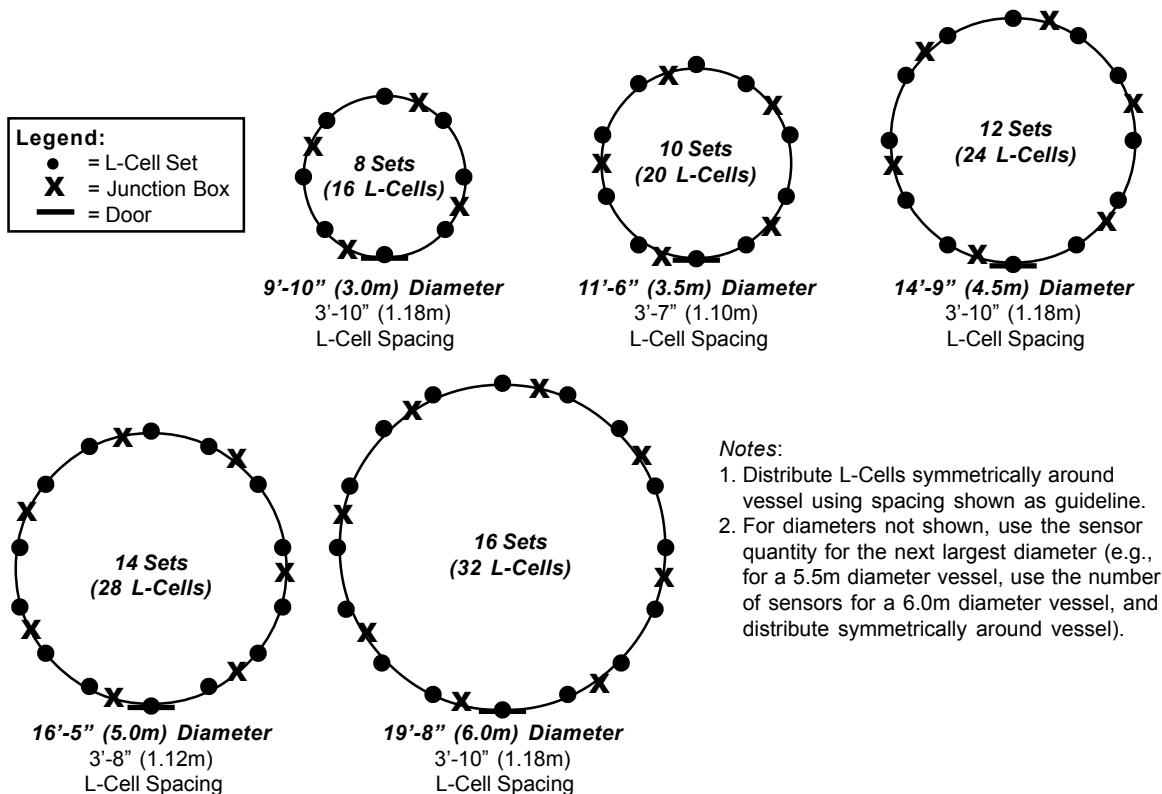
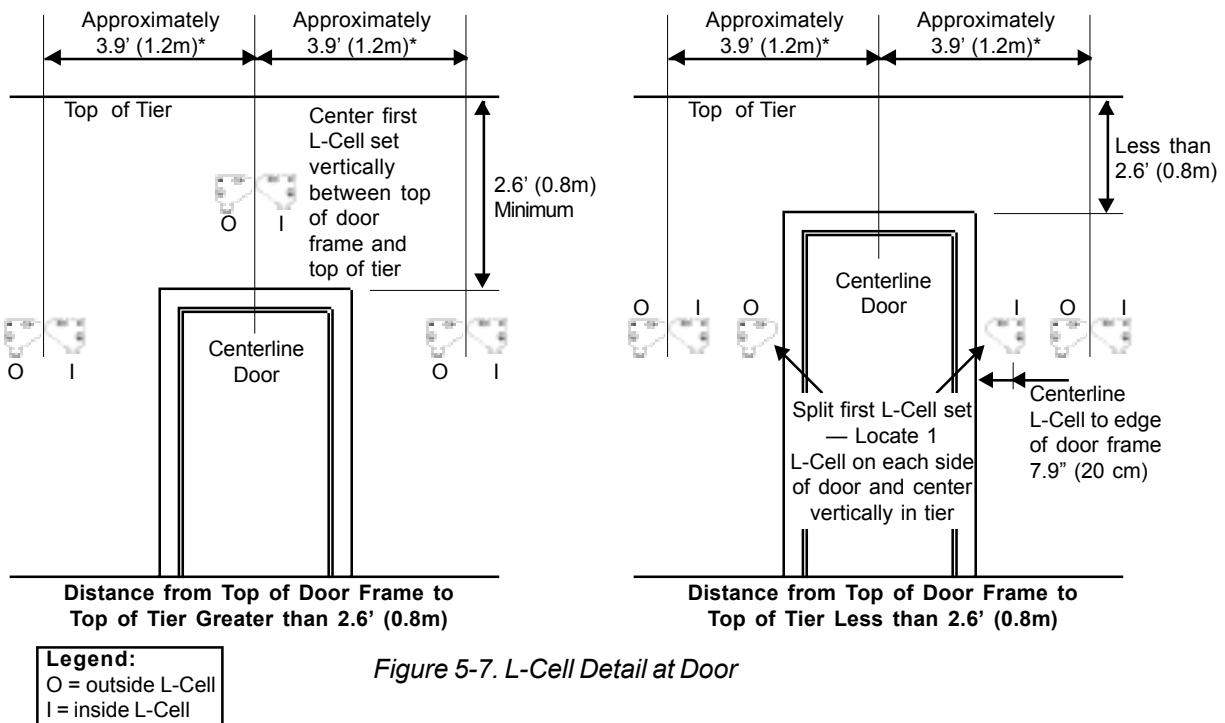

Figure 5-5. Plan View—L-Cell and Junction Box Locations (Aluminum)
Figure 5-7. L-Cell Detail at Door
See Figures 5-5 and 5-6. Typical aluminum skirt-supported vessel sizes are shown in Figure 5-5. L-Cells are placed symmetrically around the vessel, with a maximum spacing of 4' (1.2m) between L-Cells. Typically, the tiers are 6.6' to 8.2' (2.0 to 2.5m) high, and the L-Cells are placed at the vertical centerline of the tier.
See Figure 5-7. Place the first L-Cell set at the centerline of the door, or place one L-Cell at each side of the door.
1. From Figure 5-5, for a 3m diameter vessel, the spacing between sensors is approximately 1.18m. Locate L-Cell sets at 1.18m spacings around the vessel, for a total of 16 L-Cells (8 locations x 1 L-Cell set/location x 2 L-Cells/set). From Figure 5-7, center the first set above the door.
*Note: See Figure 5-5 for spacing, which is dependent on skirt diameter.